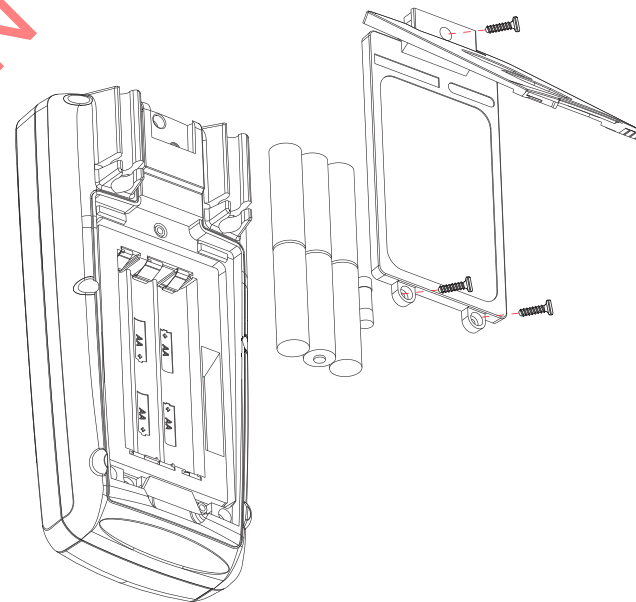

Figure 8
2. Installation or replacement of battery/fuse (See Figure 8)
6 1.5V(AA) batteries, as shown in Figure 8, provide power for the product. Please install or replace batteries as follows:
- ① Turn the rotary switch to OFF (shut down) and take off the test wire from the terminal.
- ② Remove three screws from the battery cover with the standard cross screwdriver, take off the cover and take out the batteries, then install the new batteries as per the indication of polarity.
- ③ It is required to install batteries of the same model. Do not install the improper batteries.
- ④ Take out the damaged fuse as per the methods specified in Figure 8, and replace them with the fuse of the same specification (specification: 500mA/600V).
- ⑤ After installing new battery, put the battery cover in place and screw on three screws.